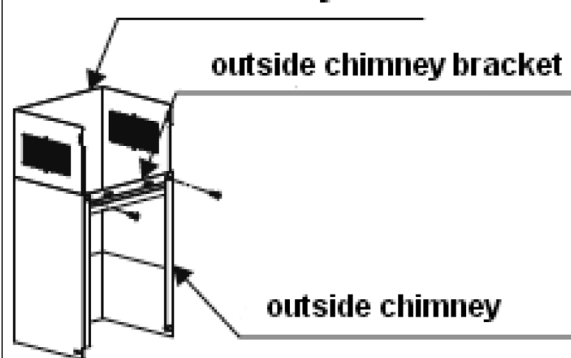

fig.8
- Fix the cooker hood with 2pcs ST4*30mm safety screws. Note: The two safety vents are positioned on the back housing, with a diameter of 6mm. Put the two chimney sections onto the cooker hood and lead the expansion pipe to the outside. See fig.8.